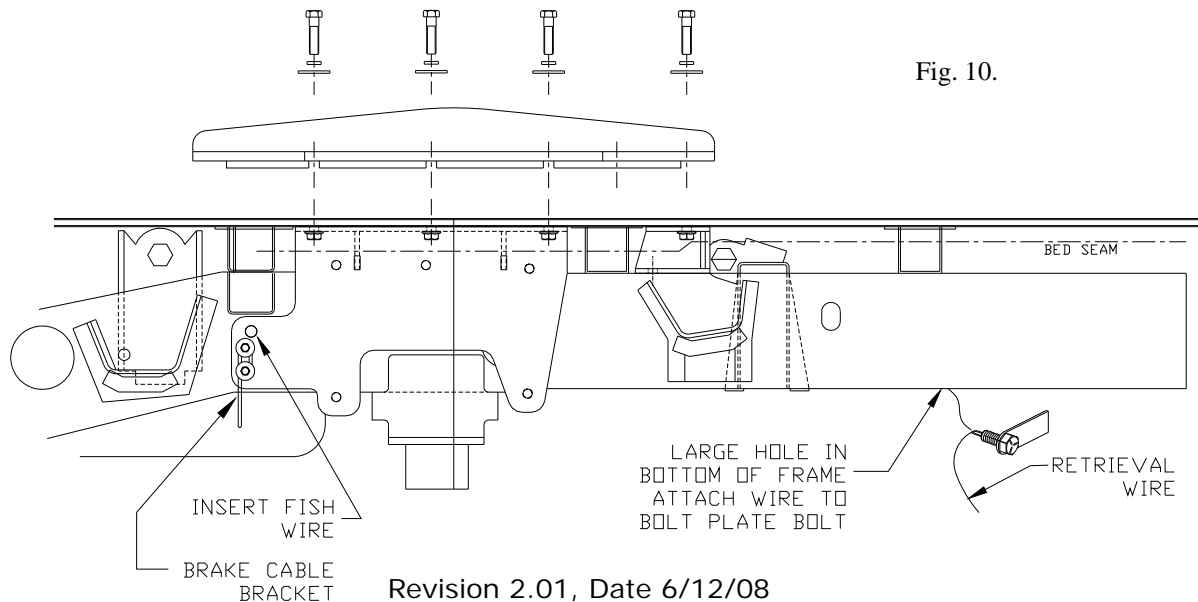

Fig. 10.
After blocking the front wheels, place jack stands under the frame so that the rear of the truck is high enough to allow the rear wheels to drop. This will give easy access to the frame area in the rear wheel well. Remove the **emergency brake cable bracket** located in the driver side wheel well, refer to figure 10 on page 7. Replace this bracket after installing the hitch mounting brackets. Find the electrical harness located on the inside of the driver side frame rail. Pull the plastic xmas tree fasteners loose from the frame in the area where the hitch mounting bracket will be located. Replace these fasteners after the hitch is installed. If the truck is a **two wheel drive**, remove the axle jounce bumper located just above the axle on the bottom of the frame, replace after the hitch is installed.
3. Find the existing 5/8" frame hole as shown in figure 6 on page 6 and the large round hole located on the bottom of the frame towards the rear of the truck, see figure 10 this page.
4. Insert a "fish" wire into the front 5/8" existing frame hole and thread it towards the large hole located on the bottom of the frame at the rear, see figure 10 below. Use a short piece of wire, fashioned like a fish hook, to snare the "fish" wire down through the large rear hole.